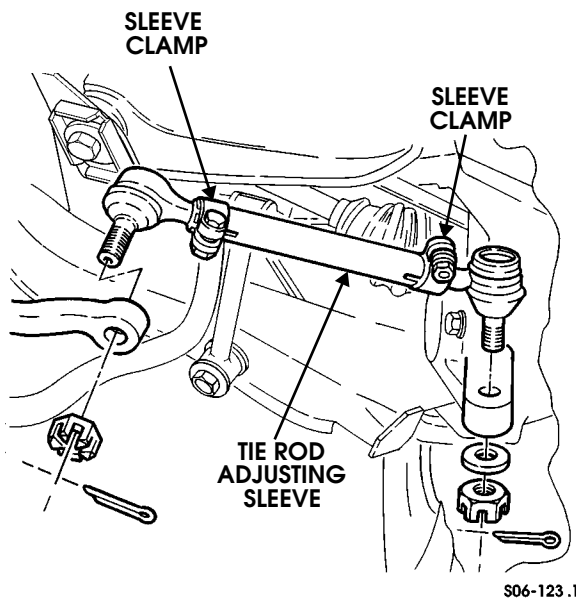

Figure 6-49: Front Wheel Toe Adjustment Points
2. Loosen adjusting sleeve clamps on both tie rods (Figure 6-49).